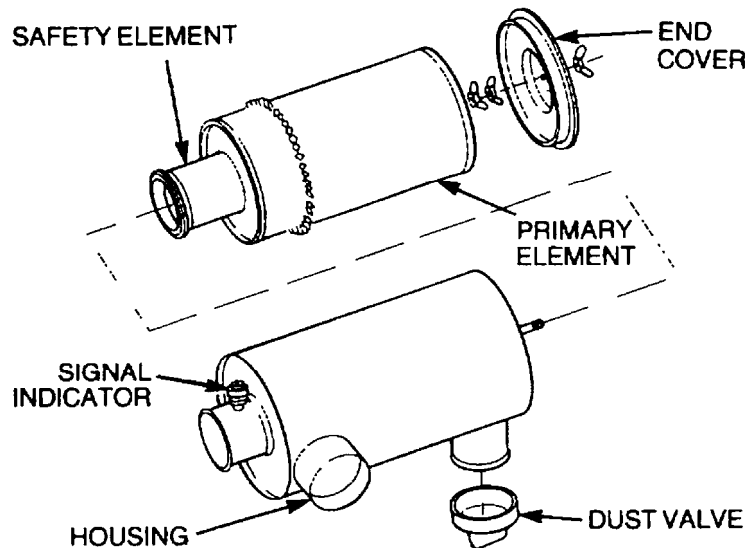

Figure 42 Air Cleaner Elements Replacement
- d. Remove the wing nuts securing the end cover (Figure 42) and remove the end cover.